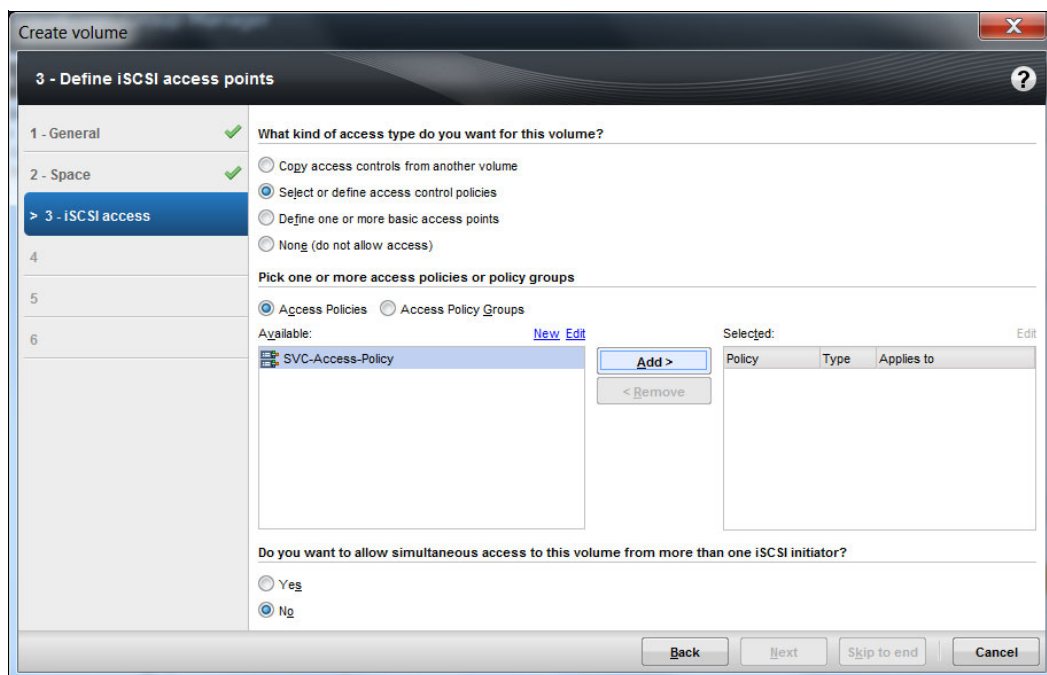

Figure 14-16 Applying the access policy to volume
5. Select the access policy for the volume. If you are planning to connect a Dell Equallogic PS Series system behind a SAN Volume Controller or Storwize cluster, it is advised that you should use the same access policies for all of the LUNs that are virtualized behind the SAN Volume Controller or IBM Storwize cluster. To create access policies, see 14.2.2, “Setting up access policies” on page 271. Select the **Select or define access control policies** radio button. Select the access policy that you want to apply on the volume and click **Add**, as shown in Figure 14-16.